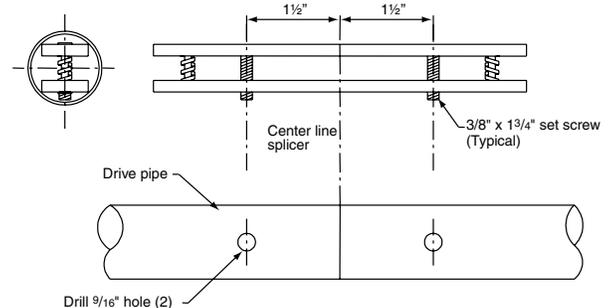

Figure 4
- ⑥ Raise the other drive pipe sections as indicated on project drawings. Once the drive pipe is resting in the drive pipe support assemblies, slide the proper number of cable guide sleeves onto the pipe.
- ⑦ Slide the cable guide sleeves into their approximate location, which should correspond to the lift lines of the practice cage.
- ⑧ Attach pipes together with drive pipe splices to obtain one long continuous run of drive (see Fig. 4).